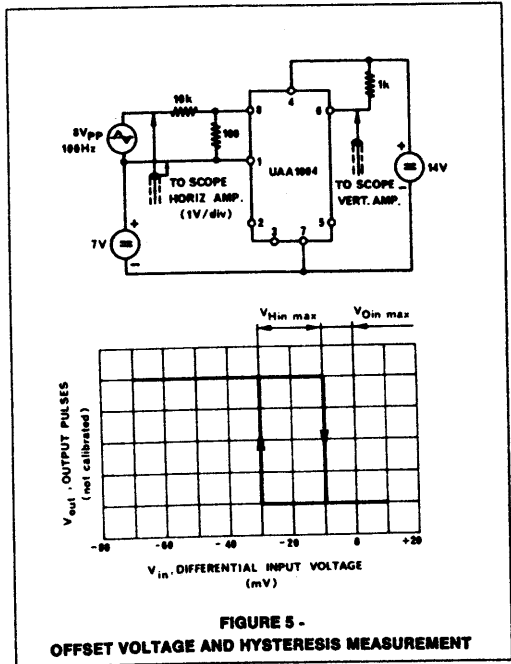

FIGURE 5 - OFFSET VOLTAGE AND HYSTERESIS MEASUREMENT
2. This characteristic can be measured as in Fig. 5. The function generator must be connected between pins 1 & 2 and the input amplifier must be biased with pin 8 positive and pin 1 negative.